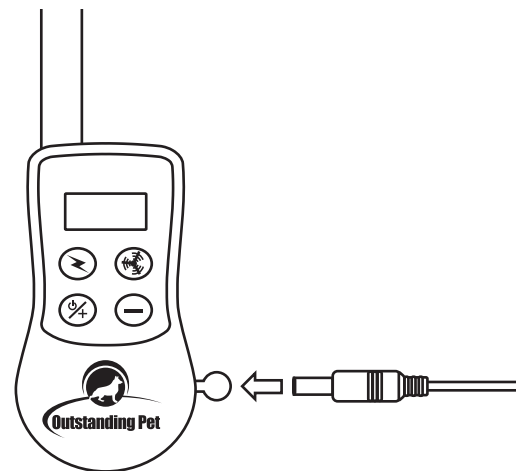

figure 3 – Charging the Remote Transmitter
2. Connect one of the AC Charging Adapter connectors (either connector will work) into the Remote Transmitter Charging Interface (*figure 3*) for six to eight hours (on the first use of the product, charge the Remote Transmitter for 12 to 14 hours).